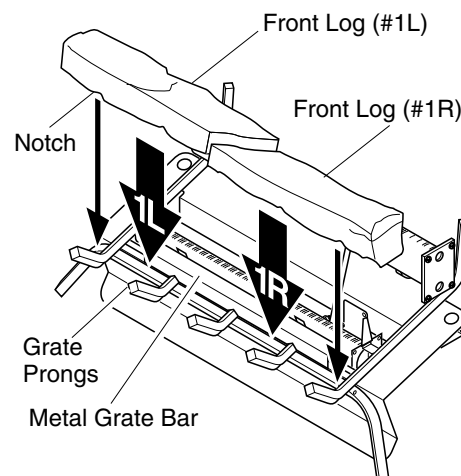

Figure 22 - Installing Front Logs (#1L and #1R)
1. Place front logs (#1L and #1R) on top of the grate. Make sure the notches in the bottom of the logs fit over the grate prongs (see Figure 22). Push back of logs flush with metal grate bar. *Note:* 18" model has only one front log.